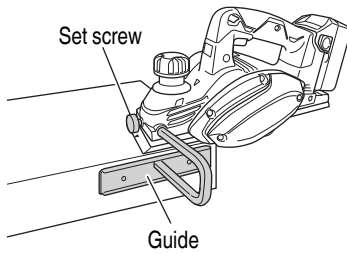

Fig. 13
8. Regulating the guide (Fig. 13)